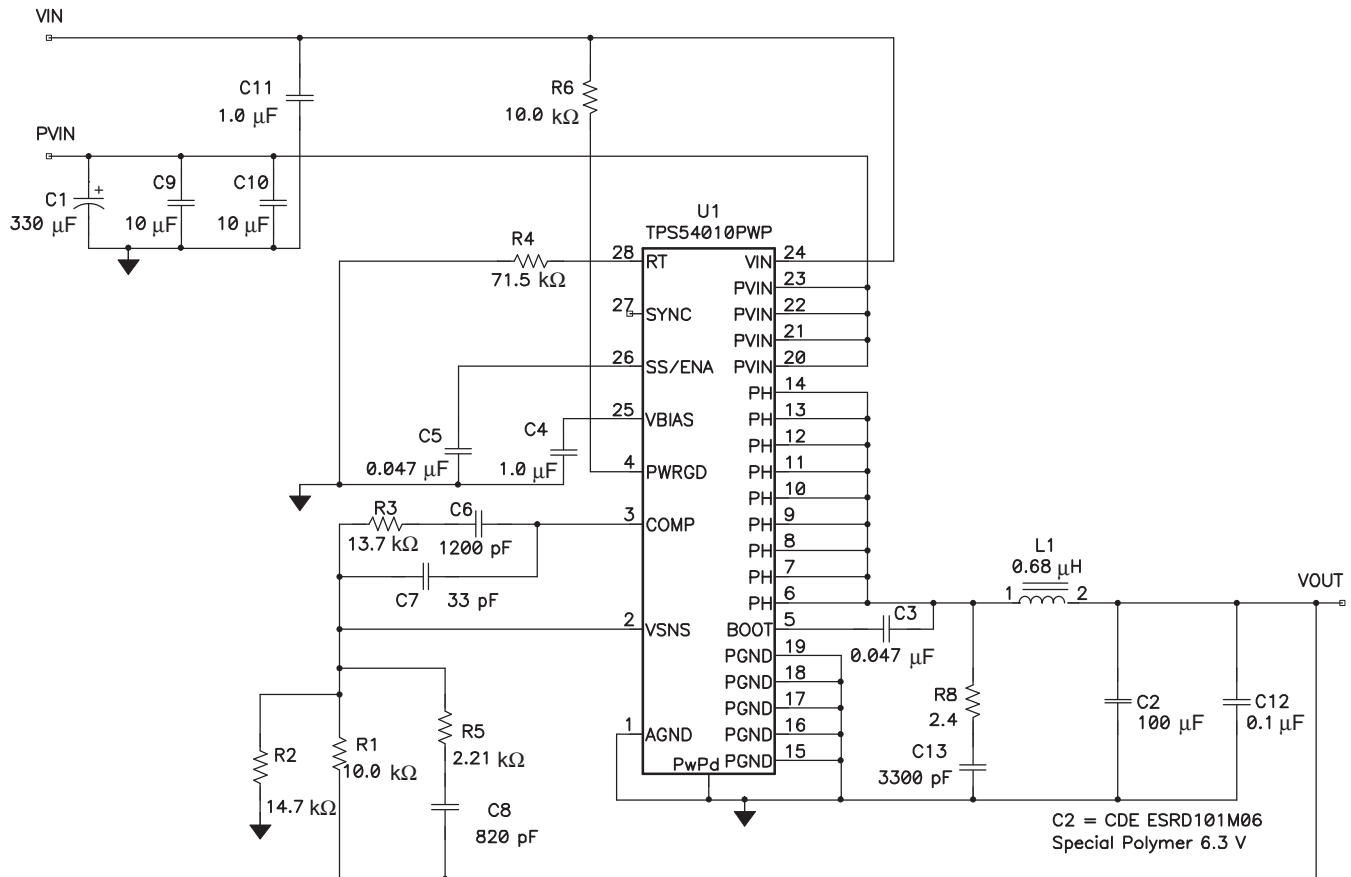

Figure 12. Application Circuit, 2.5 V to 1.5 V
(4) Specified by the circuit used in Figure 12
Figure 12 shows the schematic for a typical TPS54010 application. The TPS54010 can provide up to 14-A output current at a nominal output voltage of 1.5 V. Nominal input voltages are 2.5 V for PVIN and 3.3 V for VIN. For proper thermal performance, the exposed PowerPAD underneath the device must be soldered down to the printed-circuit board.